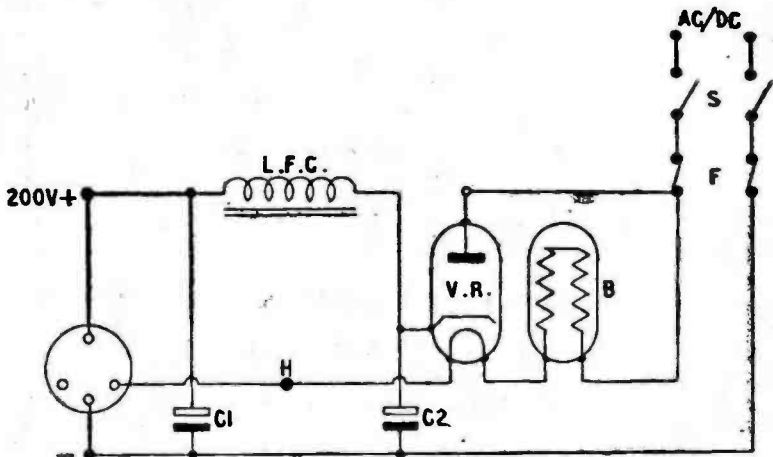

FIG 2.—A.C./D.C. Power Pack.
As is well known, for A.C./D.C. operation the heaters of all valves used in the apparatus must be connected in series, and must have the same current rating, this rating also applying to the rectifier valve heater and to the barretter, or voltage dropping bulb, B, in Fig. 2.
When the circuit of Fig. 2 is used, therefore, care must be taken to ensure that the barretter B is rated at the range of voltages it is required to drop, but no adjustments are then necessary.
A.C./D.C. valves must be arranged so that the first audio stage in a receiver—i.e., the detector—or the most sensitive valve in an amplifier has one side of its heater connected straight to the negative line, in order that there shall be no heater—cathode leakage with consequent hum. Obviously, in Fig. 2, the valve heater chain is connected between H and the negative line.
### Components List for A.C./D.C. Power Pack, Fig. 2.